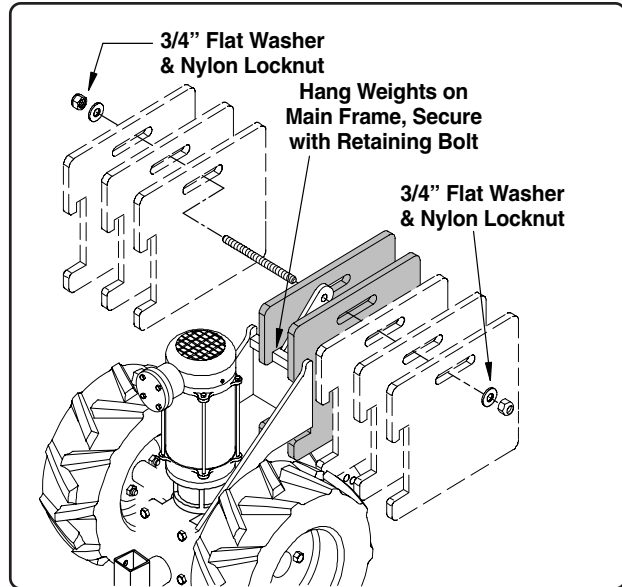

Fig. 22
12. Hang the weights onto the upper portion of the main frame as shown in Fig. 22 (weights should be distributed equally on both sides of the support arm). Secure the weights using the weight retaining bolt, 3/4" flat washers and 3/4" nylon locknuts.